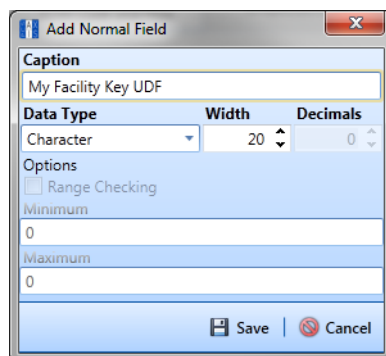

Figure 9-2. Add Normal Field
- Click **Normal** in the toolbar to open the *Add Normal Field* dialog box (Figure 9-2).